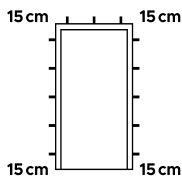

fig. 4
- Fasten the door frame to the wall with at least 13 mounting anchors. 5 pcs. each for vertical parts. 3 pcs. for the upper part. 15 cm from the corners and so the distance between each was not greater than 50 cm. Install the anchors in the frame starting with the vertical part on hinges side. (fig. 4).